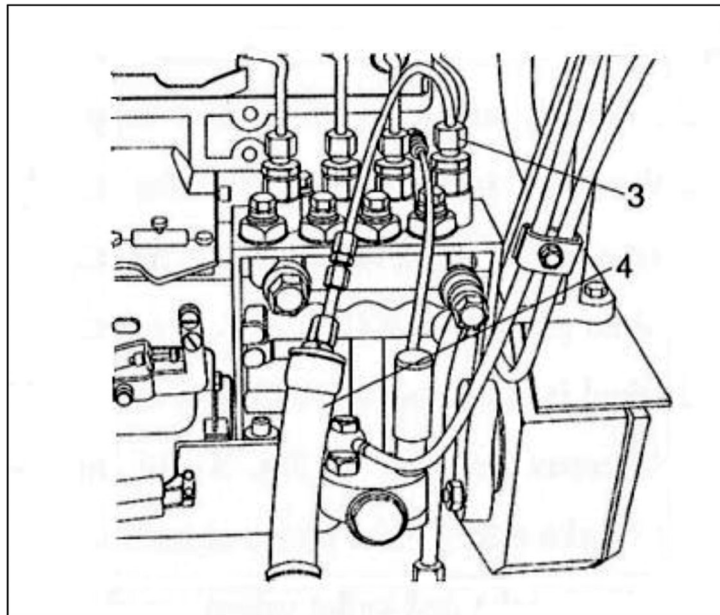

Figure 3-17
- Remove high pressure fuel pipe of fuel injection pump connected to the cylinder and mount special tools with connecting nut 3 and drip pipe 4 (which is inside the rubber tube) (Fig.3-17).